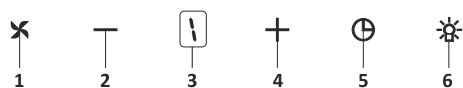

Fig. 16: 5 Spd Dig Button
1. ➤ Press this button to turn on the product.Fig. 16
2. ➤ Press this button to decrease the motor speed.Fig. 16
3. ➤ Dig display You can follow which speed the product is currently working on this display.Fig. 16
4. ➤ Press this button to increase the motor speed.Fig. 16
5. ➤ When timer button is pressed, a 15-minute timer function will be activated; display will give a signal once the timer starts and the motor will stop automatically after 15 minutes.Fig. 16
6. ➤ Press this button to turn on and off the lamp.Fig. 16